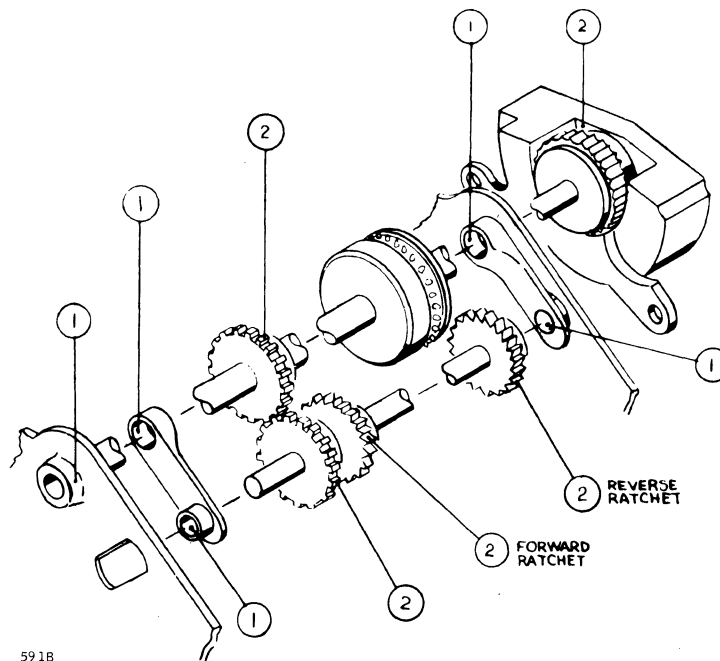

Figure 4-2. Ratchet, Gear, and Pawl Lubrication Points
Lubrication points in the punch are identified by the callouts in figures 4-2 to 4-5. The numeral identifies the lubricant listed in table 4-1. Equivalent grade lubricants may be substituted. Apply lubricants sparingly.
1. Ratchets, Gears, and Pawl (figure 4-2)